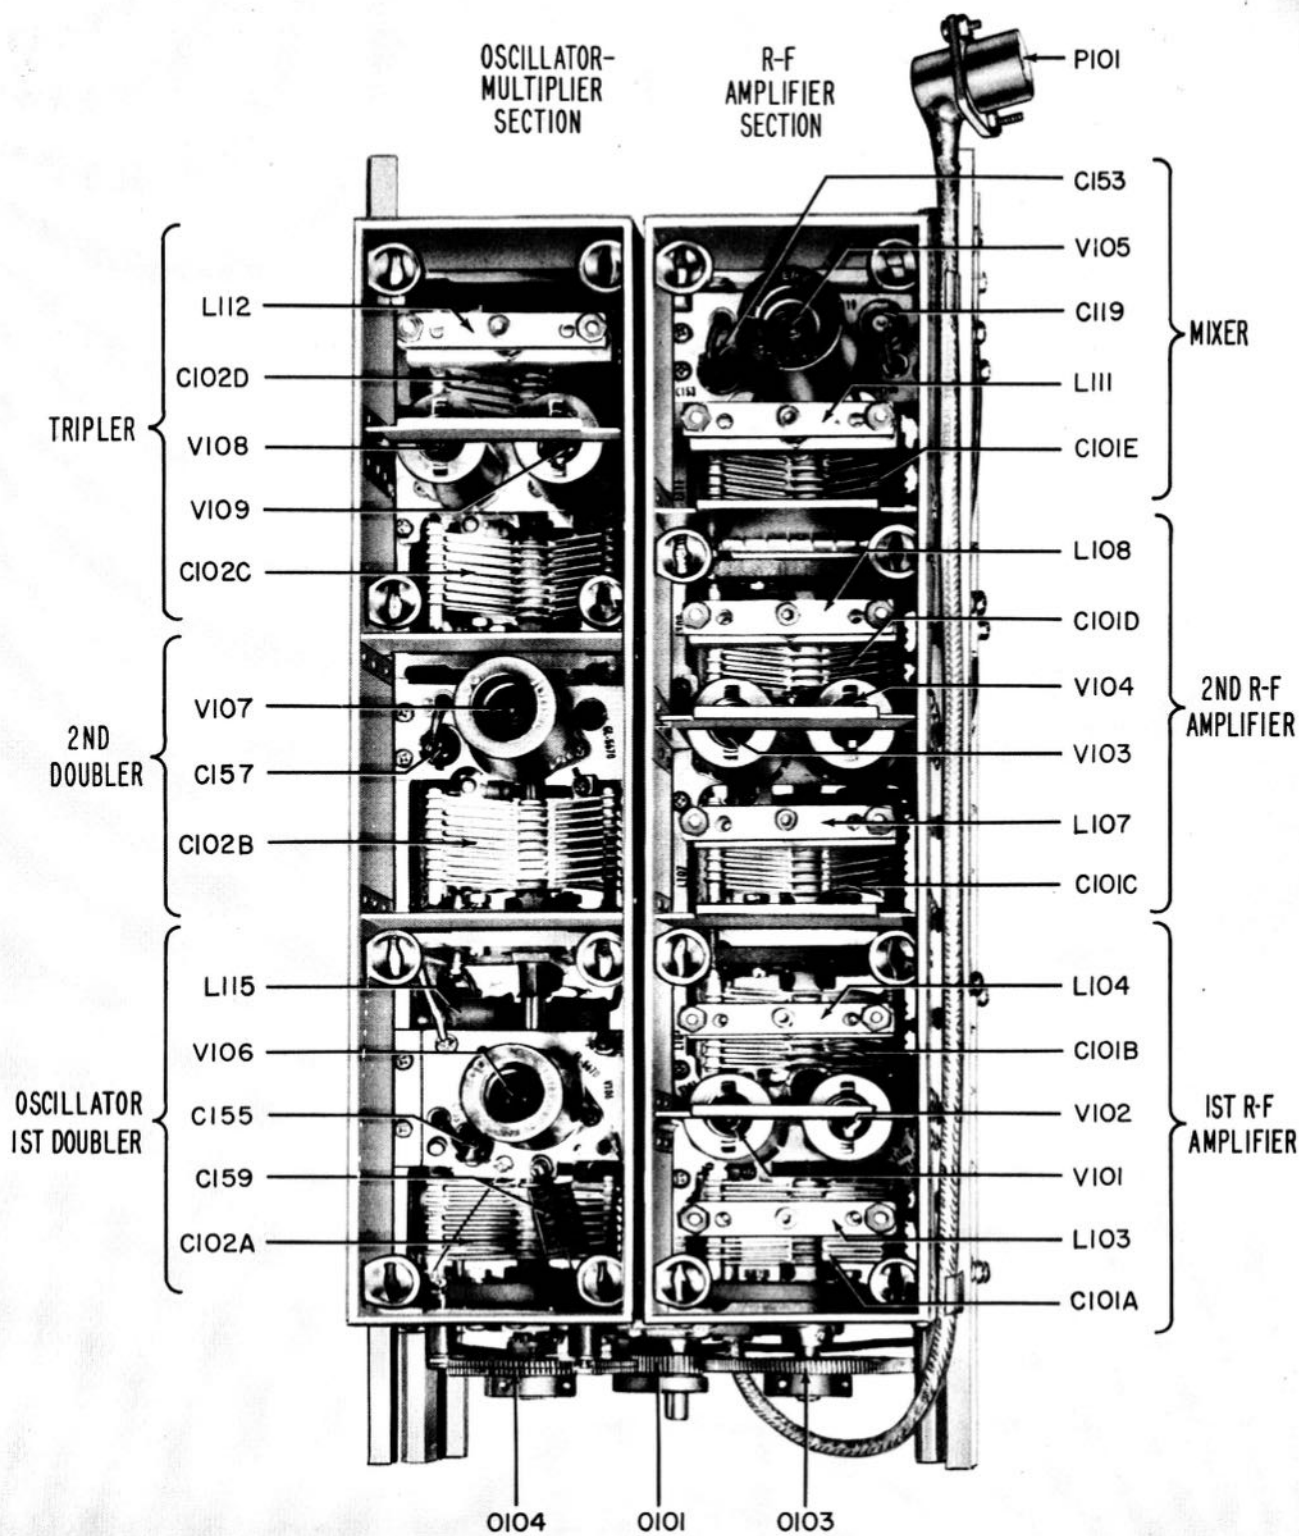

Figure 2-2. Preselector Viewed from Left Side of Unit, Shielding Covers Removed
a. PRESELECTOR. (See figures 2-2 and 2-3.)
(1) R-F AMPLIFIER SECTION.
Tuning of the various stages is accomplished by capacitor C102, which has four sections, each a split-stator type. The use of split-stator capacitors in the balanced tank circuits permits the use of a grounded rotor to reduce inter-sectional capacitance. Rotor grounding is accomplished through wiping contacts. Since there is no appreciable amount of r-f current through these contacts, the inherent noise associated with wiping contacts is not present. Capacitor C102 is geared to the five-section capacitor, C101, to provide single-control tuning for the receiver; see figures 2-2 and 2-3. The trimmer inductance of the tripler stage and the trimmer capacitors in all the stages of the oscillator-multiplier section are integral parts of the tuning capacitor, similar to those described previously in subparagraph 2a(1)(b) of this section.